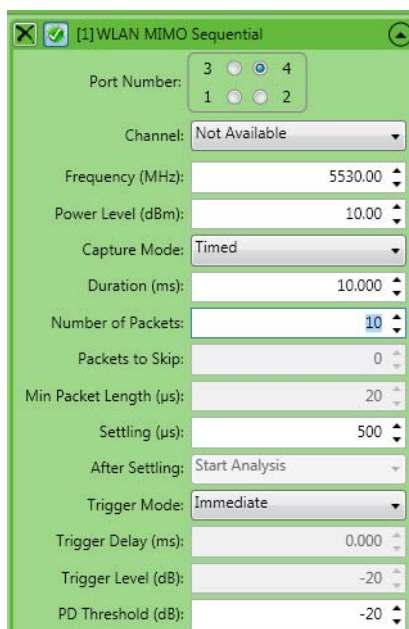

Figure 6-4. Sequential MIMO - First Segment
- Expand the first segment settings by clicking the arrow in its title bar - Figure 6-4.